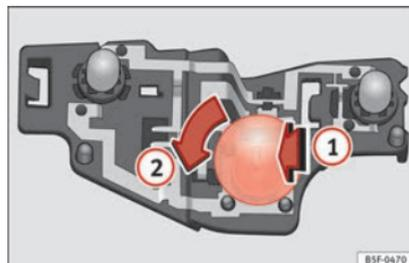

Fig. 222 Position of the bulbs in the bulb holder
- Lightly press the defective bulb into the bulb holder » Fig. 222 **1**, then turn it to the left **2** and remove it.